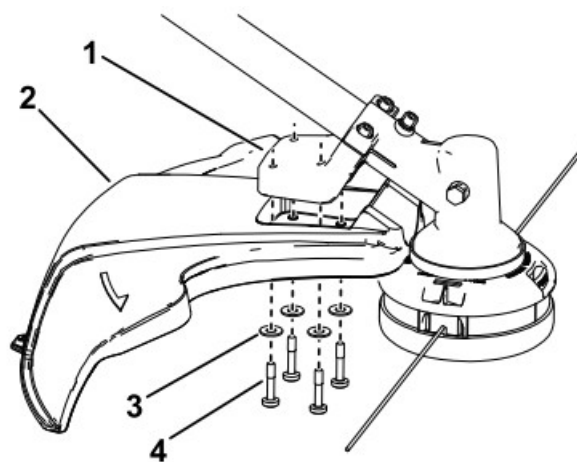

Figure 4
1. Align the trimmer guard beneath the guard mount as shown in Figure 4.
2. Secure the guard to the trimmer using the 4 washers and 4 bolts as shown in Figure 4.